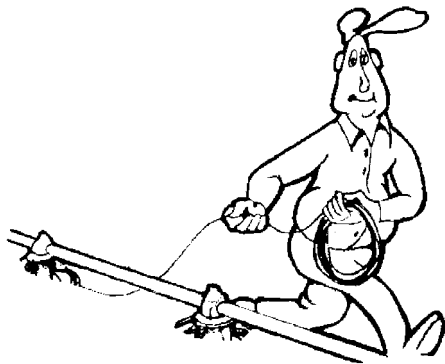

Figure 43. Unrolling the Cable
1. Unroll the bulk anti-roost cable. Note: If the cable is unrolled as shown in **Figure 43**, taking 5 loops of the coil with one hand, then changing hands to remove 5 loops as it is unrolled, it will lie flat during installation.